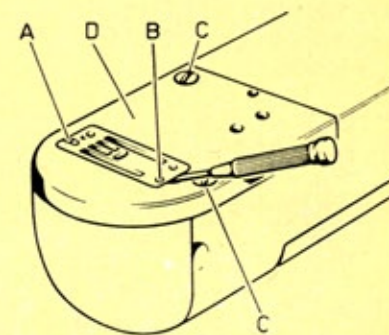

Fig. 21
- Insert the blade of the small screwdriver of accessory box into appropriate slot of closing plate «D», as shown in fig. 21, and levering on same lift and remove needle plate.
- Set needle plate inclined so that appropriate back dowel gets into notch «A» (fig. 21), and leave it lifted from front part, that is towards you.